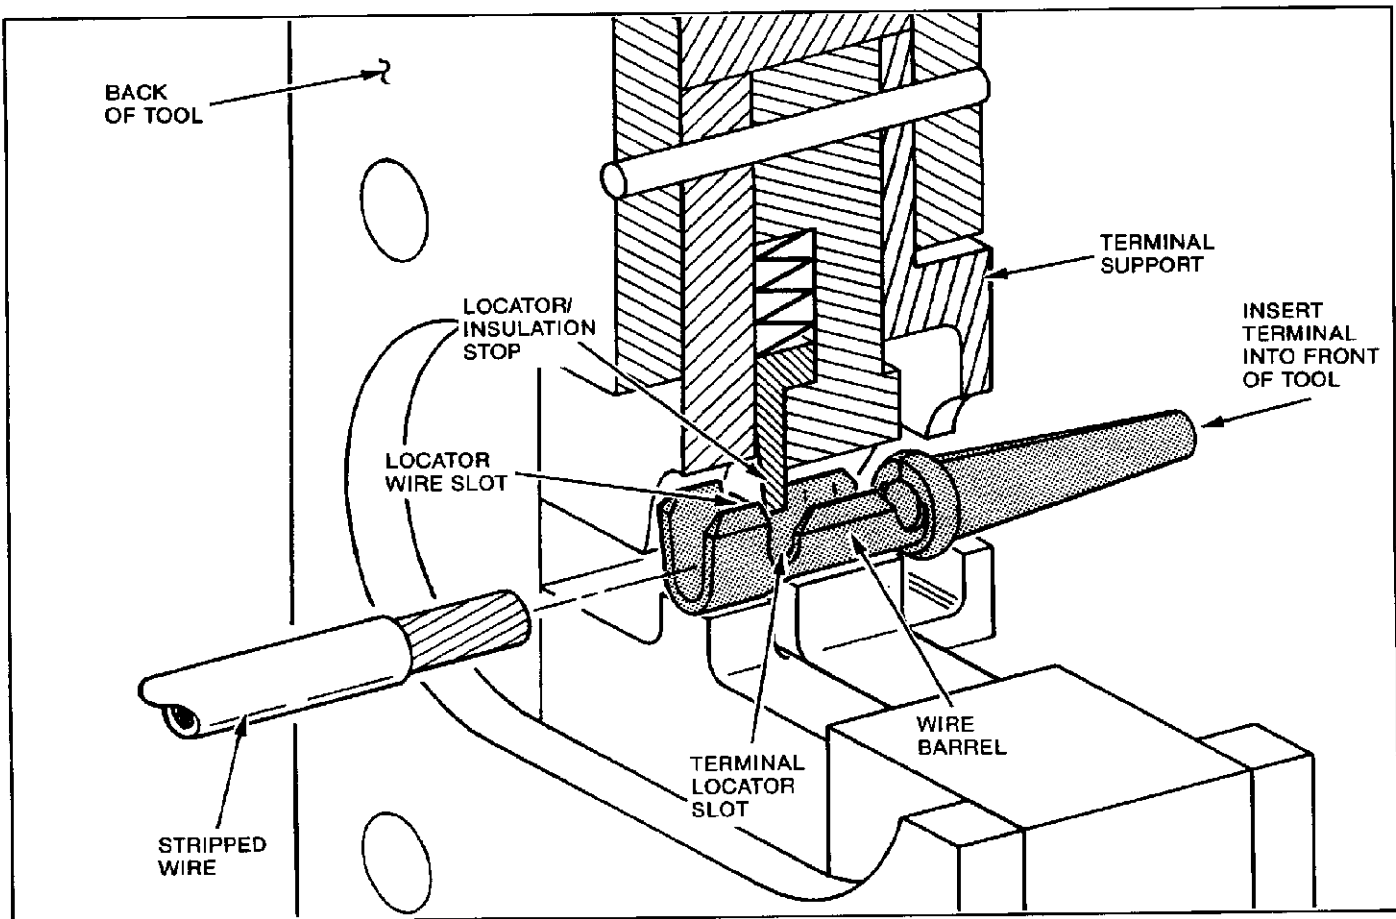

Fig. I-3
The locator/insulation stop positions the terminal between the crimping dies and aids in locating the wire in the terminal. In use, it rests in the terminal's locator slot. Refer to Figure I-3. The terminal support prevents the terminal from bending during the crimping procedure.
1. Hold the tool so the BACK of it is facing you. See Figure I-3.
3. Looking straight into the crimping dies from the BACK of the tool, insert a terminal (insulation barrel first) into the FRONT of the tool. See Figure I-3.